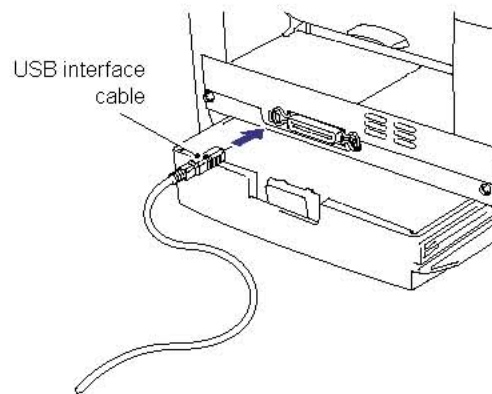

Fig. 2-7
- (1) Check that the printer power switch is on.
- (2) Connect the USB interface cable to the computer, then connect it to the printer. (Fig. 2-7)